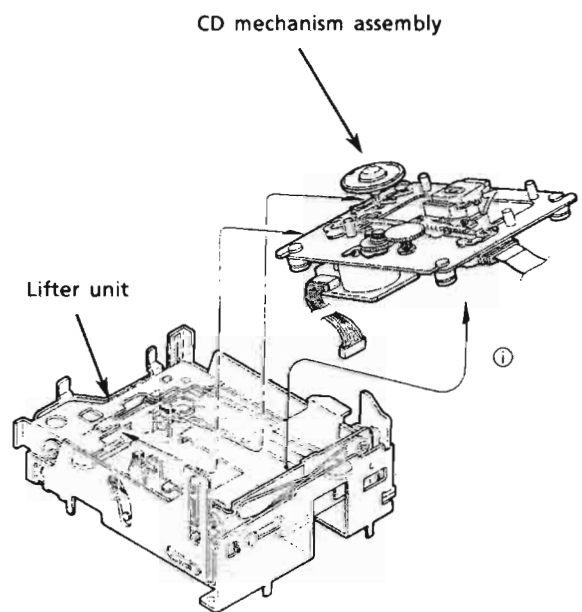

Fig. 38
2. Lift the CD mech. ass'y toward the direction (i) to remove it from the lifter unit. (See Fig. 38.)